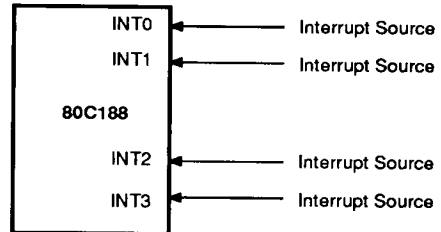

Figure 20. Fully Nested (Direct) Mode Interrupt Controller Connections
When in the fully nested mode four pins are used as direct interrupt requests as in Figure 20. The vectors for these four inputs are generated internally. An in-service bit is provided for every interrupt source. If a lower-priority device requests an interrupt while the in-service bit (IS) is set, no interrupt will be generated by the interrupt controller. In addition, if another interrupt request occurs from the same interrupt source while the in-service bit is set, no interrupt will be generated by the interrupt controller. This allows interrupt service routines to operate